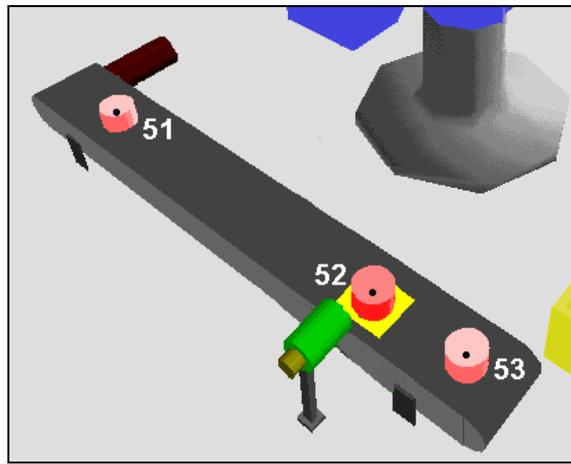

Figure 13-1
- 3 Record the three conveyor positions shown in Figure 13-1